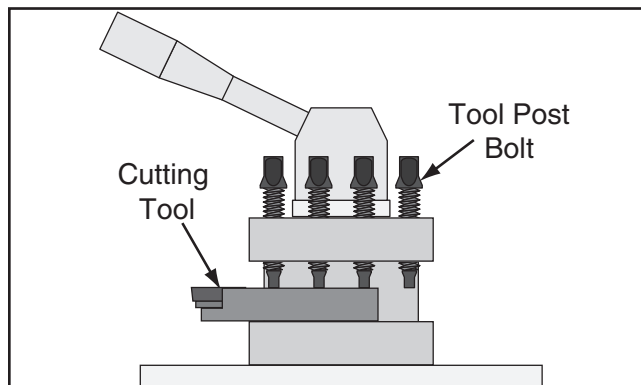

Figure 62. Example of tool mounted in tool post.
1. Adjust the tool post bolts so that the cutting tool can fit underneath them (see **Figure 62**).